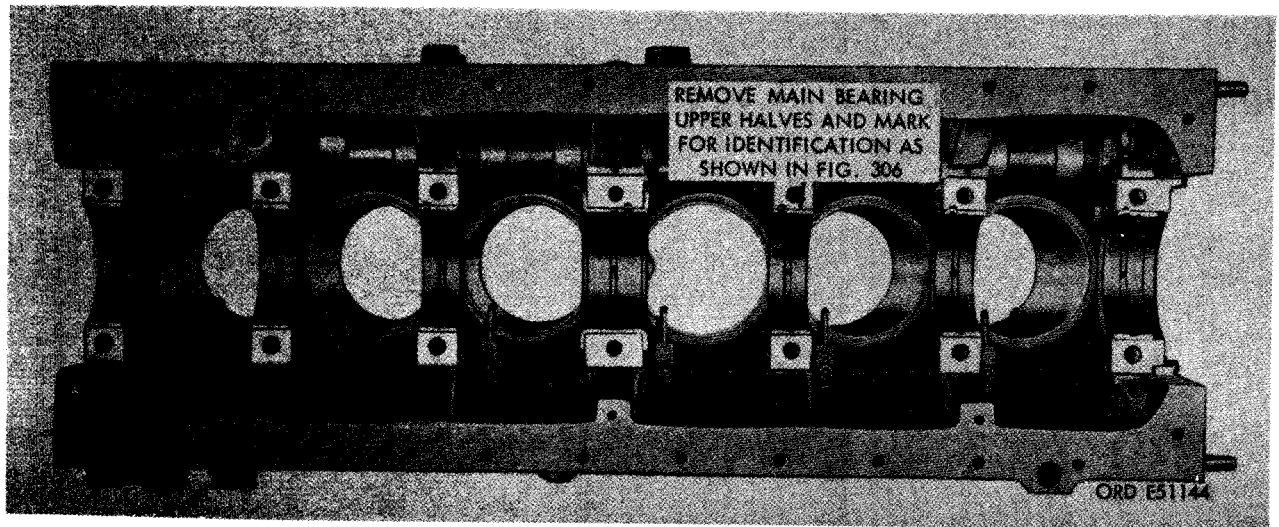

FIGURE 308. REMOVING OR INSTALLING MAIN BEARING UPPER HALVES.
- (4) Refer to figure 308 and remove the seven main bearing upper halves.